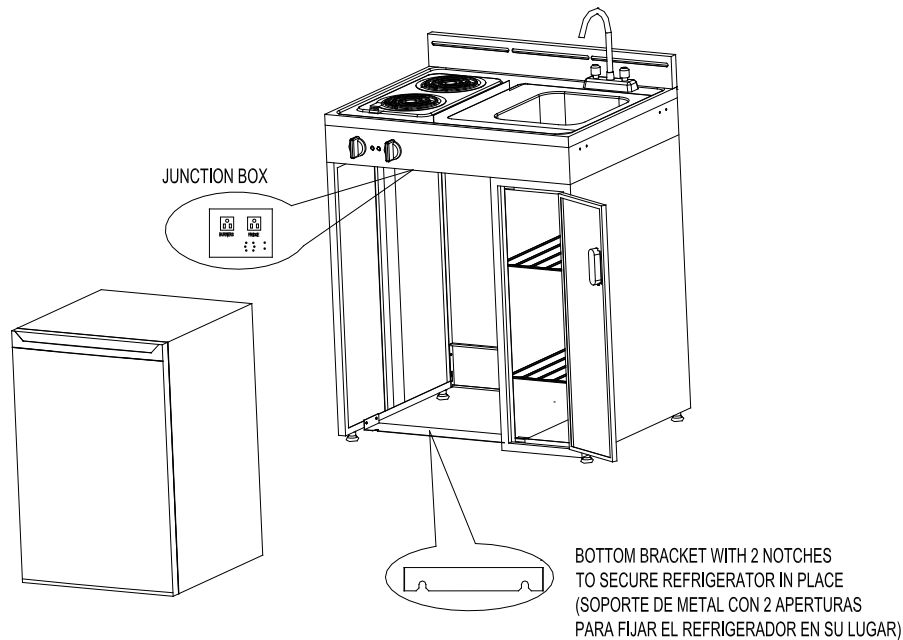

Figure No. 6
- Connect the Refrigerator power supply cord to the receptacle in the junction box located at the back of kitchen cabinet under the countertop as shown in Figure No. 6.
- Secure refrigerator leveling legs in place using the bottom bracket notches as shown in Figure No. 6.